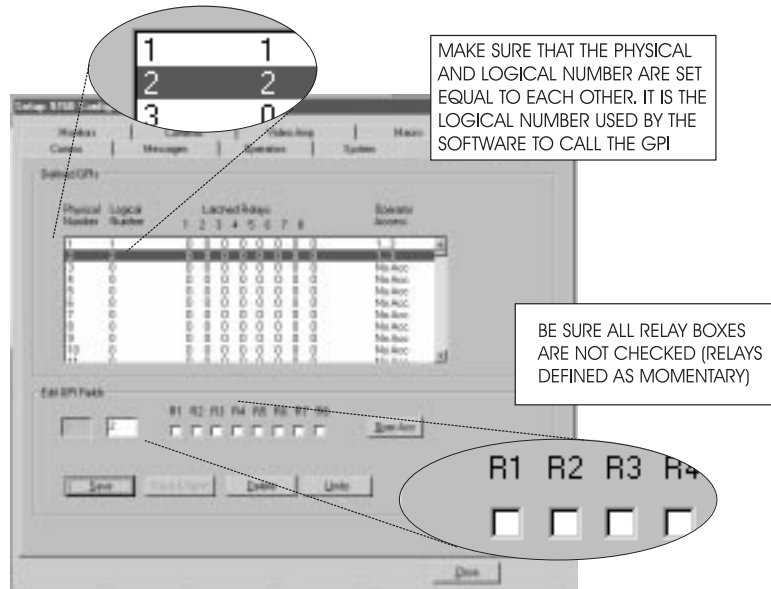

Figure 12. Configuring the GPI SETUP file for VCRC-P Operation
7. This brings up the GPI SETUP file dialog box (.GPI file). Refer to Figure 12.